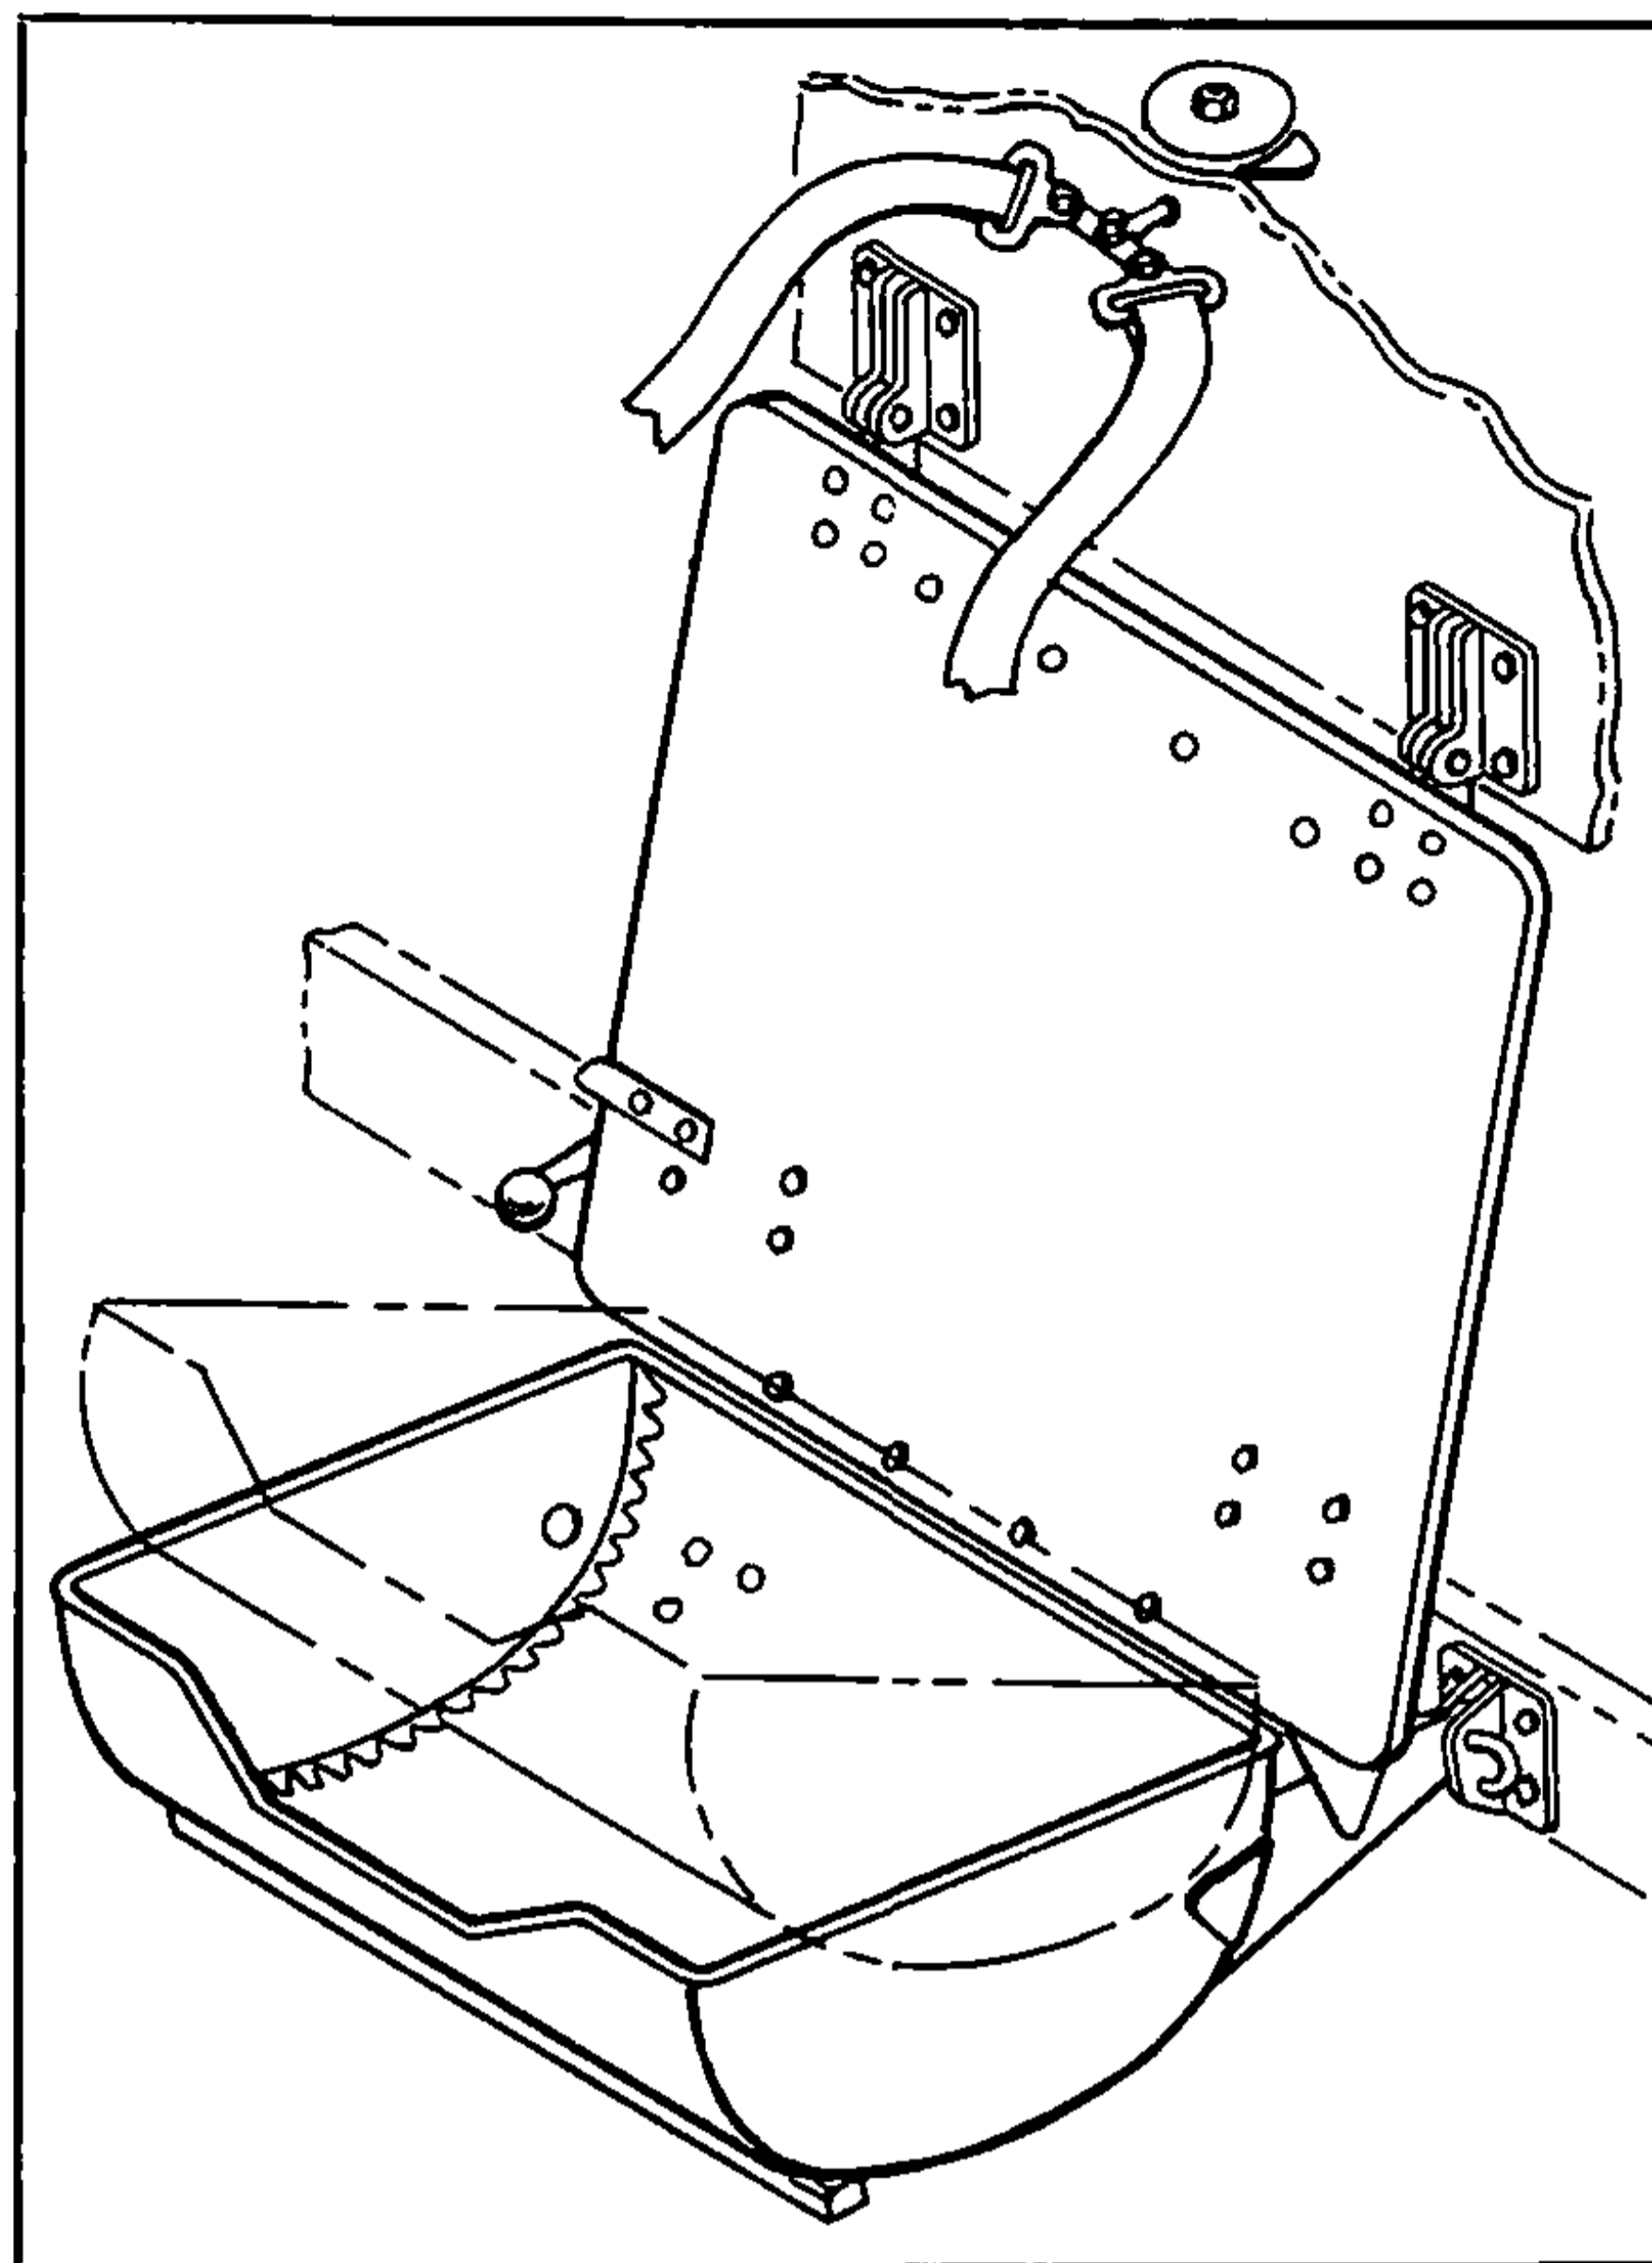

Figure 48 — Pilot's Seat
b. PILOT'S SEAT. (See figure 48.) — The pilot's seat serves as both seat and armor. The back plate is of three-eighths inch armor steel while the bucket is of the same material, one-quarter inch thick. The rear edge of the bucket is hinged to a transverse fuselage member; the forward edge swings up or down through an adjustment range of six inches. A spring-loaded lever on the seat back at the pilot's right elbow locks the seat or frees it for adjustment.